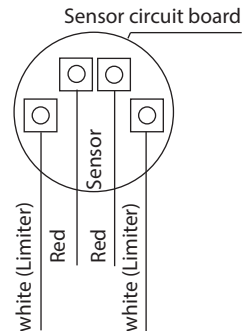

Fig. 9
4. The cables for the temperature sensor (red) are connected to the sensor circuit board according to Fig. 9. Engage the sensor board into the casing.